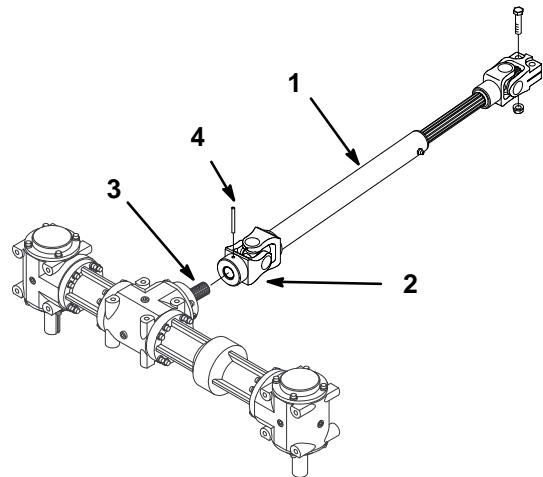

Figure 11
11. Drive roll pin through hole in PTO drive shaft to separate from gearbox shaft (Fig. 11).